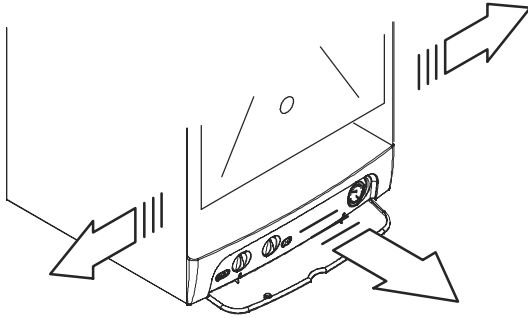

Fig. 2.4
- 4 Move the lower part of the side panels as indicated in Fig. 2.4 and pull the control panel. When completely pulled out, the panel can rotate 45° downwards to facilitate the service operations on the internal parts.